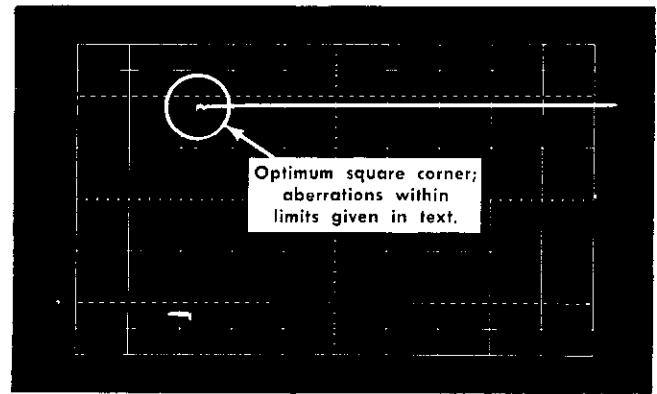

Fig. 5-4. Transient response waveform, step 7. Sweep rate 0.1 $\mu\text{s}/\text{div}$; deflection factor 20 mV/div.
- Adjust the Oscilloscope triggering and horizontal position controls to position the display as shown in Fig. 5-4.